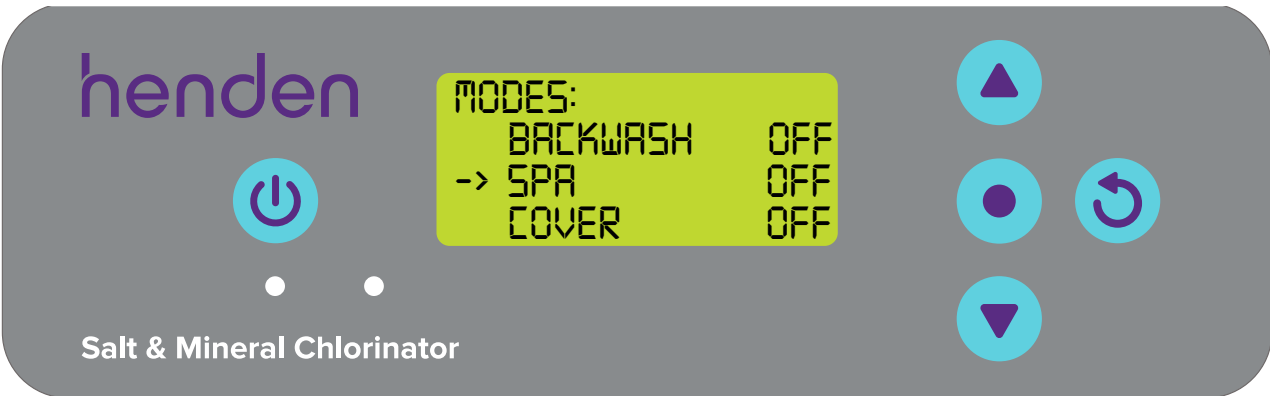

Figure 9.64
- Press the menu up/down buttons to scroll down to SPA (ref Figure 9.64), then select by pressing the menu/setting select button.